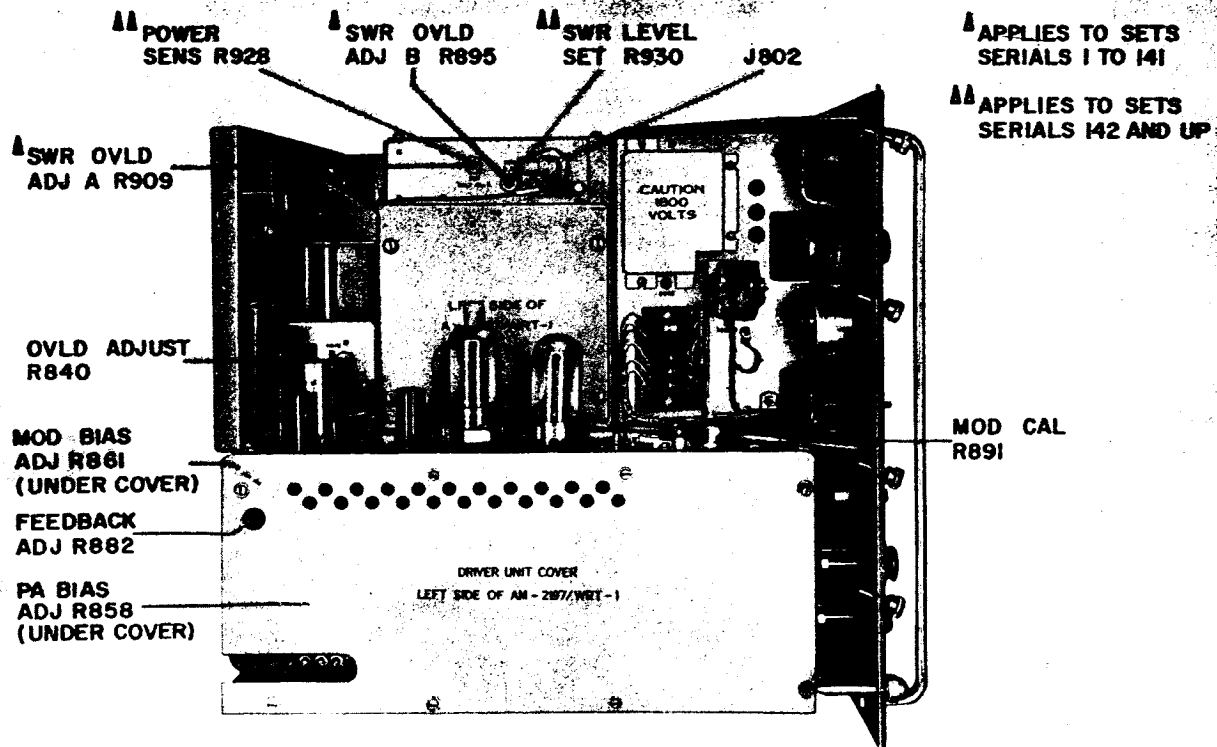

Figure 6-12. Radio Frequency Amplifier AM-2197/WRT-1, Left Side, Electrical Adjustments
(4) POWER AMPLIFIER OVERLOAD ADJUSTMENT.
Step 5. Using TUNING (F) control, detune the P.A. until CATHODE CURRENTS meter M806 indicates 240 ma.
Step 6. Refer to figure 6-12 and slowly rotate P.A. OVERLOAD ADJUST potentiometer R840 clockwise until H.V. OVERLOAD PUSH TO RESET lamp DS801 glows.
Step 8. Refer to figure 6-12 and adjust R-F BALANCE potentiometer R881 for a zero indication on R-F OUTPUT meter M803.
Step 3. Refer to figure 6-12 and rotate SWR OVLD ADJ A potentiometer, R909, fully clockwise and SWR OVLD ADJ B potentiometer, R895, fully counterclockwise.
Step 4. Set COUPLING (G) control to 00 and CATHODE CURRENTS switch S809 in the TOTAL position.
Step 3. Refer to figure 6-12 and rotate POWER SENS potentiometer R928 fully clockwise. Rotate SWR LEVEL SET potentiometer R930 fully counterclockwise.
Step 4. Set COUPLING (G) control to 00. Set CATHODE CURRENTS switch S809 in the TOTAL position.
Step 6. Adjust TUNING (F) control for a maximum indication on R-F OUTPUT meter M803.
(8) TRACKING ADJUSTMENTS. — When making the tracking adjustments on Radio Frequency Amplifier AM-2197/WRT-1 pull out the top drawer and proceed in the following manner.